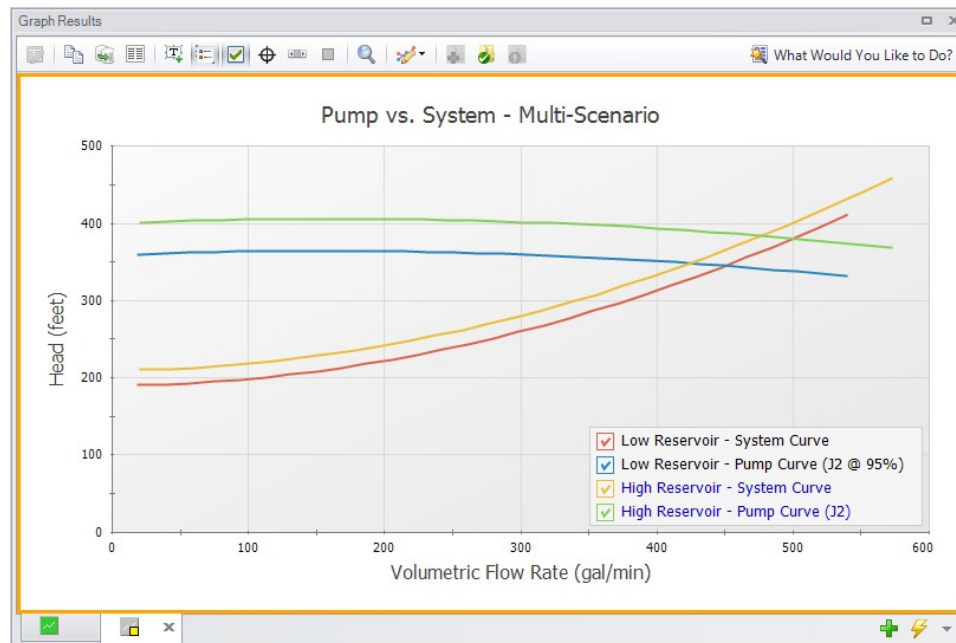

Figure 5: Multi-Scenario Pump vs. System curve
7. The selected curves will now be displayed on a single graph, as is shown in Figure 5.